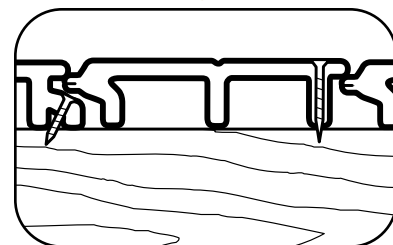

Fig. 9
- Using a 2-1/2" trim screw, fasten the replacement plank from the top (Fig. 9), allowing the screw to bury itself into the plank. TimberTech will "mushroom" at the spot where the screw is located.